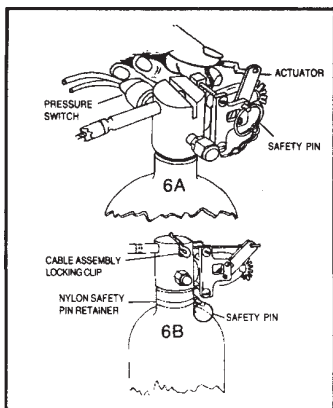

Figure 6
Step 3 Connecting cable assembly to cylinder (Figure 6 or 7)
- c. Using care, remove the factory installed actuator lever safety pin from the cylinder. Store safety pin in the nylon retainer provided on the cylinder neck (Figure 6 or 7).